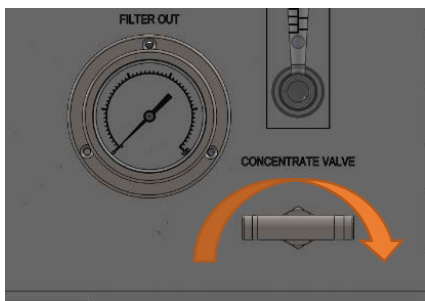

Figure 4
6. Pressurize the system to the rated flow turning the concentrate valve clockwise or 850 psi, whichever comes first (Figure 4).